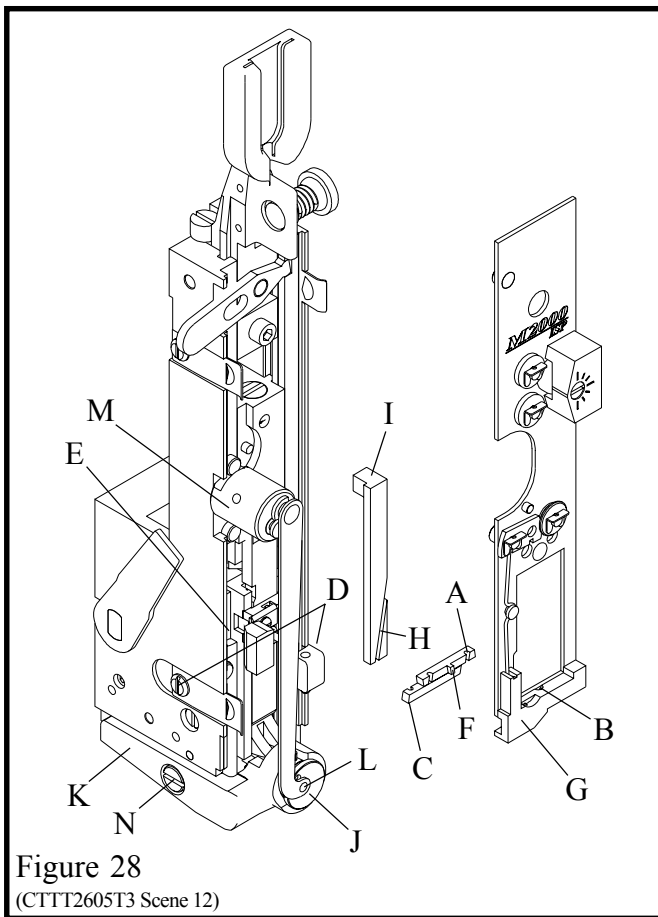

Figure 28
## L. Wire Cutters: (Figure 28)
3. Lift end of spring (Index L, Figure 28) out of rotator.
5. Slip the rotator operating cam (Index M, Figure 28) forward and off the stud.
11. Remove the cutter operating slide (Index I, Figure 28).
### O. Rotator (Figure 28)